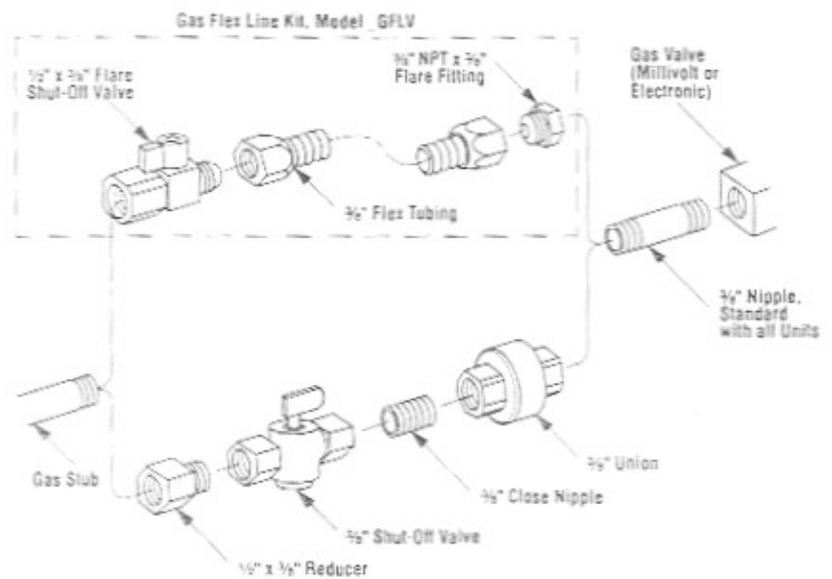

Figure 27
Step 9. Connecting Gas Line – Make gas line connections. All codes require a shut-off valve mounted in the supply line. *Figure 27* illustrates two methods for connecting the gas supply. The flex-line method is acceptable in the U.S.; however, Canadian requirements vary depending on locality. Installation must be in compliance with local codes.